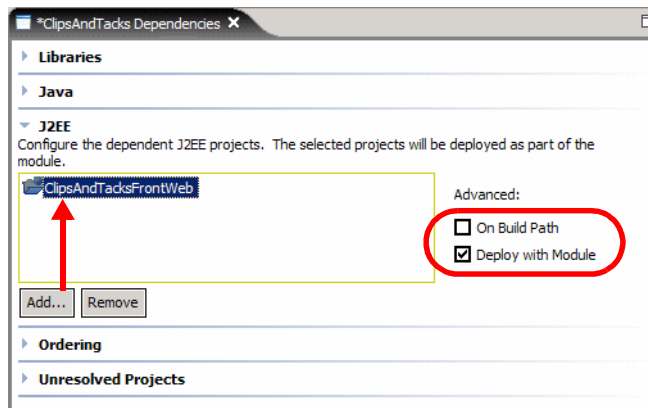

Figure 9-39 Dependencies editor to add Web project
- ▶ Save and close the Dependencies editor (Figure 9-39).